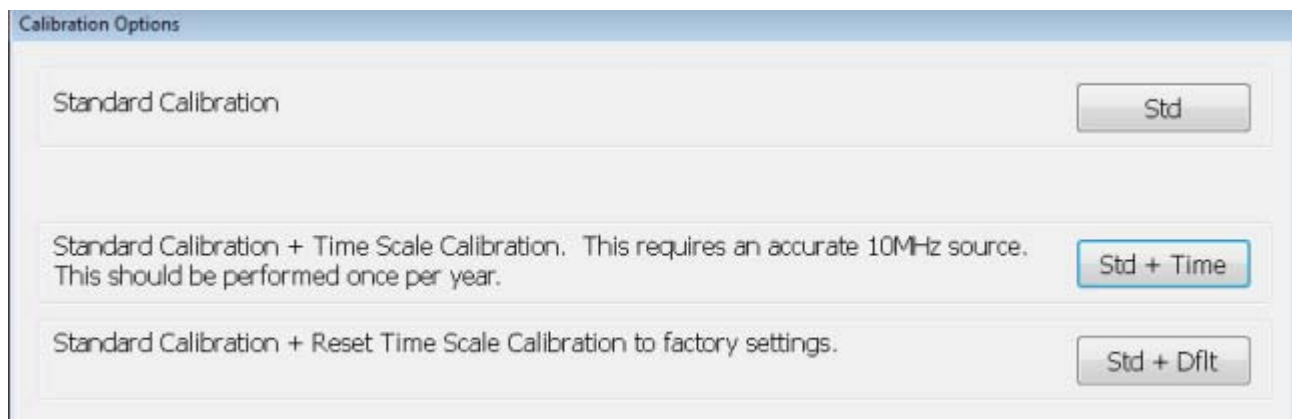

Figure 32 Time Scale Calibration Dialog box
- 4 Referring to Figure 32 below, perform the following steps to start the calibration:
- d During the calibration of channel 1, if you are prompted to perform a Time Scale Calibration, as shown in Figure 32 below.